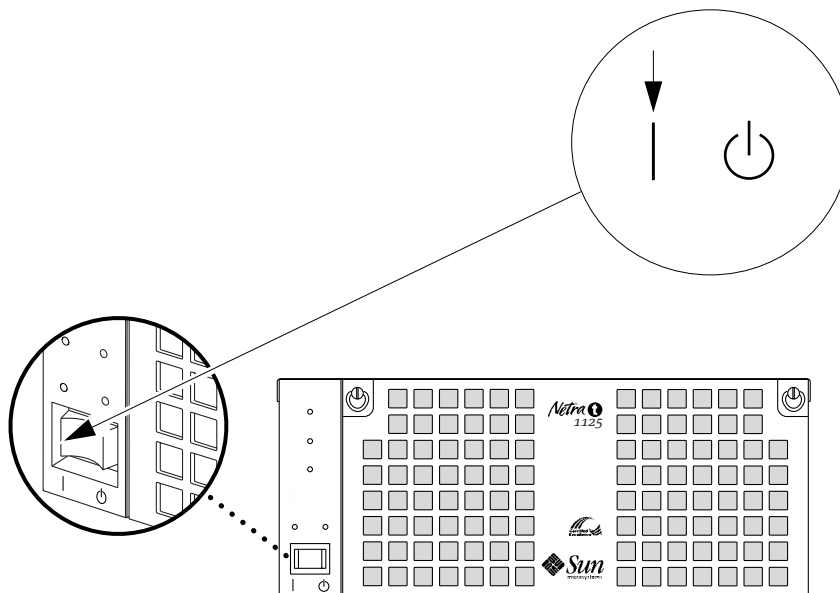

FIGURE 2-3 System Power-On (Front Panel)
3. Momentarily set the front panel ON/STBY system switch to the ON | position (FIGURE 2-3) and hold it until the system starts to power up.